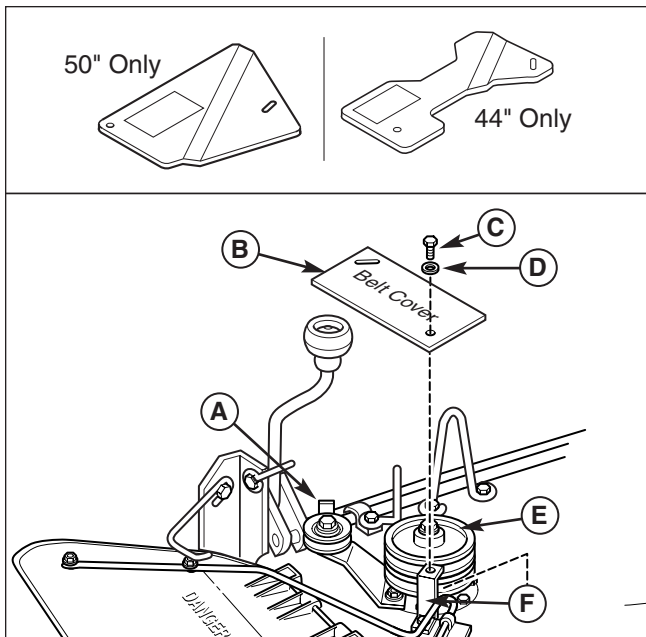

Figure 23. Install Belt Cover Plate
10. **44 and 50" Models** - Attach the belt cover (B, Figure 23) to support bracket (E) securing with 5/16-18 x 1 capscrew (C), washer (D) and 5/16-18 nut.
1. Use cover plate (A, Figure 23) as a template to drill six 13/64" holes (C) on grass catcher cover (B) as shown.